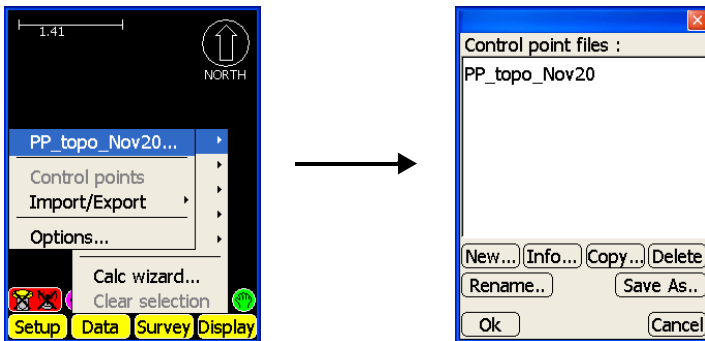

Figure 2-2. Select Control Points File
3. Press **Data ▶ Control ▶ <[none or file name]>** to select or create a Control Points file (Figure 2-2 on page 2-3).
4. On the **Control files** dialog box, press **New** to create a Control Point file (Figure 2-2).